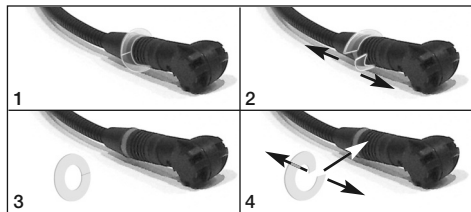

Fig. 3: Replacing the moisture shield.
- If the microphone sounds "thin" or flat, move the microphone capsule closer to your mouth (refer to fig. 3).
Refer to fig. 3.